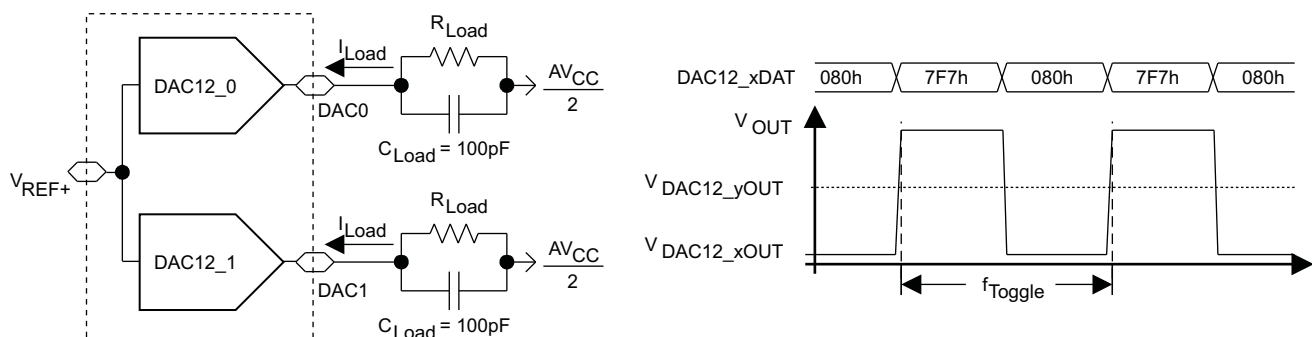

Figure 5-28. Crosstalk Test Conditions
| Channel-to-channelcrosstalk (1)(see Figure 5-28)                                               | DAC12_0DAT = 800h, No Load,DAC12_1DAT = 80h ↔ F7Fh, $R_{Load} = 3\text{ k}\Omega$$f_{DAC12\_1OUT} = 10\text{ kHz}$ with 50/50 duty cycle   | 2.2 V, 3 V |     | -80 |     | dB   |